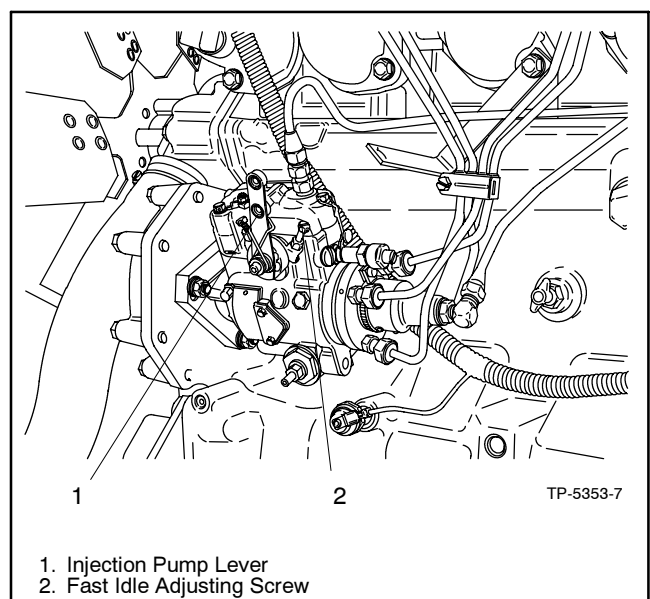

Figure 8-6 Governor Adjustments, Typical
3. Verify that injector pump lever is held in fast idle position against fast idle adjusting screw. See Figure 8-6.